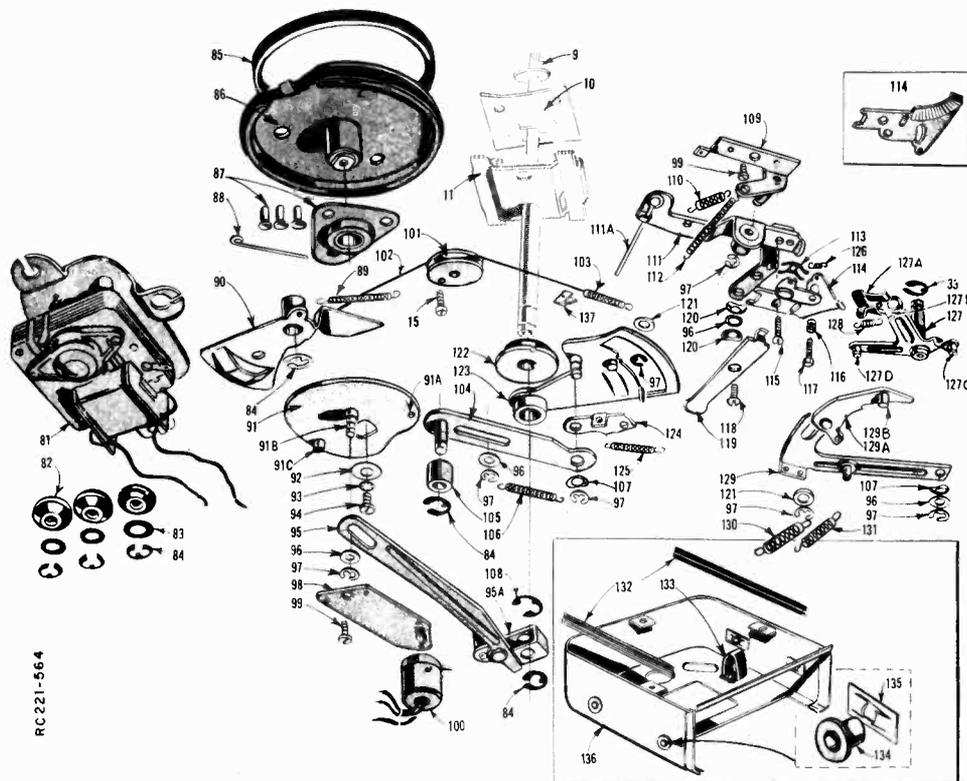

Figure 15. RC221 Exploded View.
The washers (46 and 47) and thrust bearing assembly (48) are removed by sliding them off of the centerpost. Replace in the order shown in Figure 15.